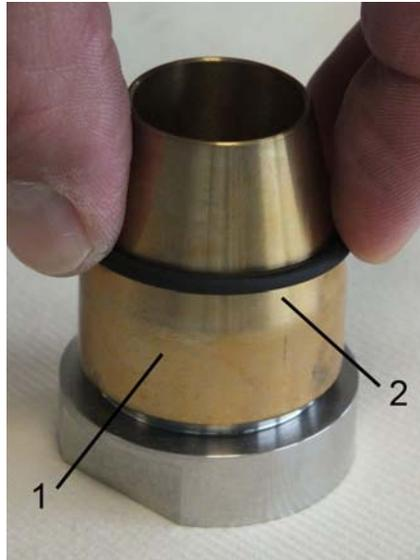

Fig. 41: O-ring (seal)
1. ➤ Carefully install the O-rings (Fig. 41/2) with the aid of the O-ring installation tool (Fig. 41/1) onto the process connections (inlet and outlet), so that they